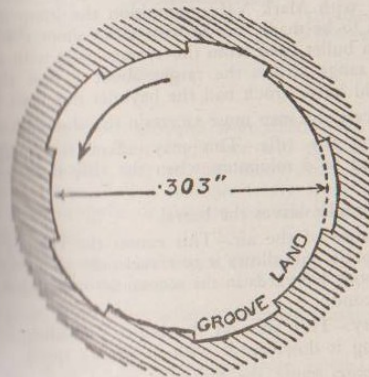

Fig. 1
3. Rifling.—A barrel is said to be rifled when it has spiral grooves cut into the bore (See Fig. 1).